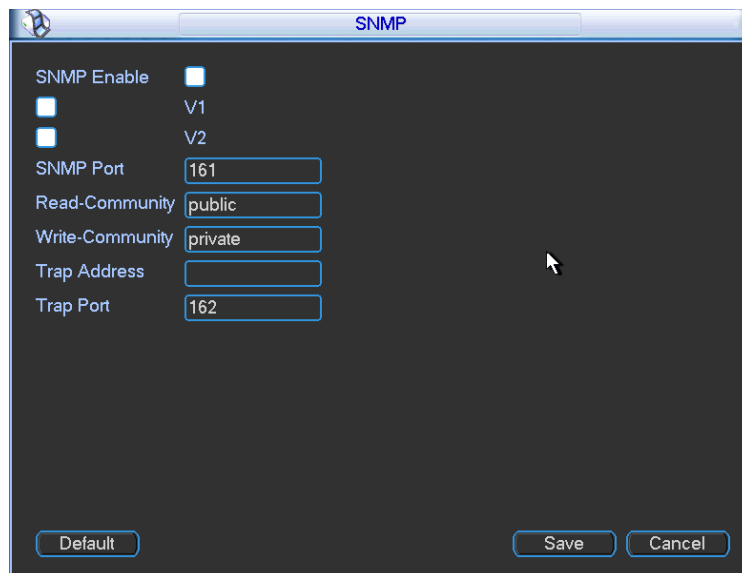

Figure 6-51
You can set in the following interface. See Figure 6-51.
- In Figure 6-51, check the box to enable the SNMP function. Input the IP address of the PC than is running the software in the Trap address. You can use default setup for the rest items.